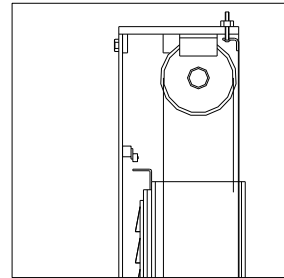

Fig.16
3. If the lift reaches to the maximum height, push the button to stop it(Fig.16).
6. If the moving part exceed its travel distance, on the upper part of the command post there is a limit switches connected in series and are usually set working by the “actuator”(Fig.16) on the command side carriage. If the first limit switch did not work, the second one would trip after 3sec of carriage run.